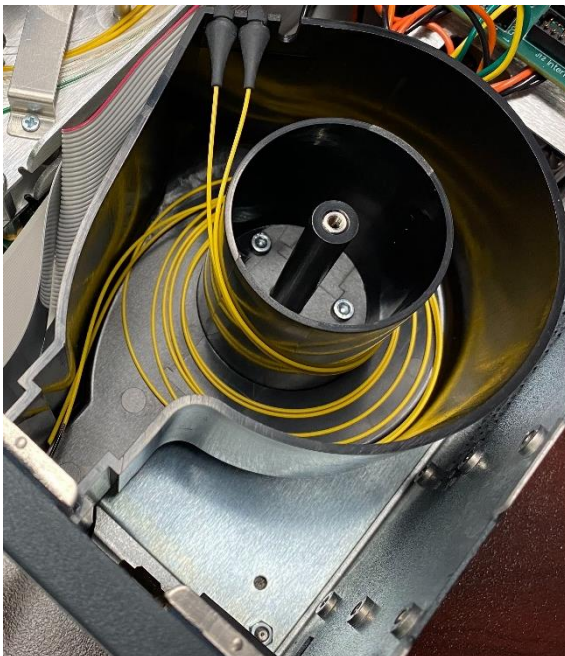
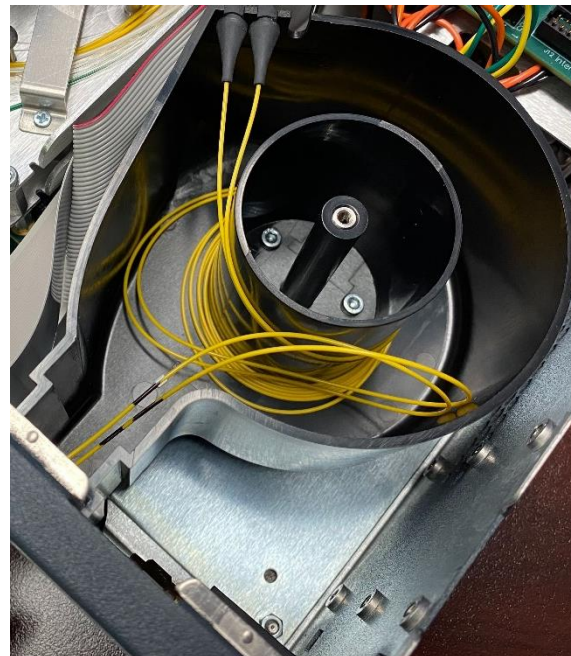

Figure 46: Exposed view of good output fiber management
Figure 47: Exposed view of poor output fiber management
7. Reinstall the output panel with the thumbscrews. To avoid damaging the fibers, keep a clear line of sight to the fiber as it spools back inside the unit. It should lay flat and spool back in without resistance or twisting. Figure 46 shows an exposed view of good output fiber management. Figure 47 shows poor fiber management.